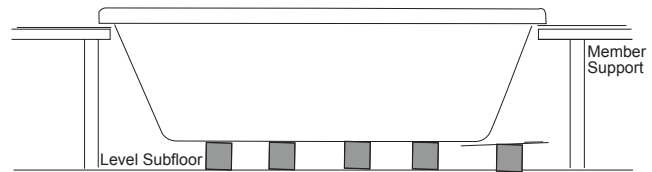

Figure 10 - Support
- 10 Remove scrap lumber and lower the bathtub fully into the opening (Figures 10 and 11).